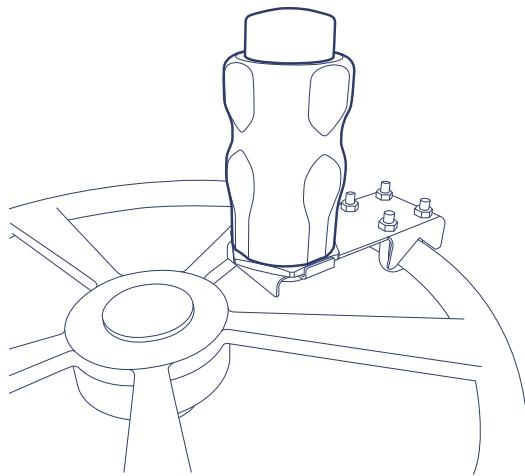

Fig. 1. Horizontal mounting
- Mount the bracket on the handwheel of the valve (fig.1), (fig.2),